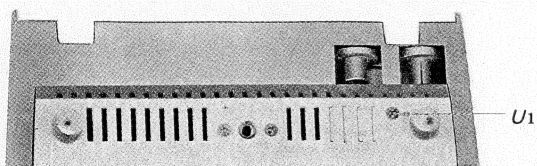

Fig. 2-22
3. Remove a screw labeled U1 in Fig. 2-22.